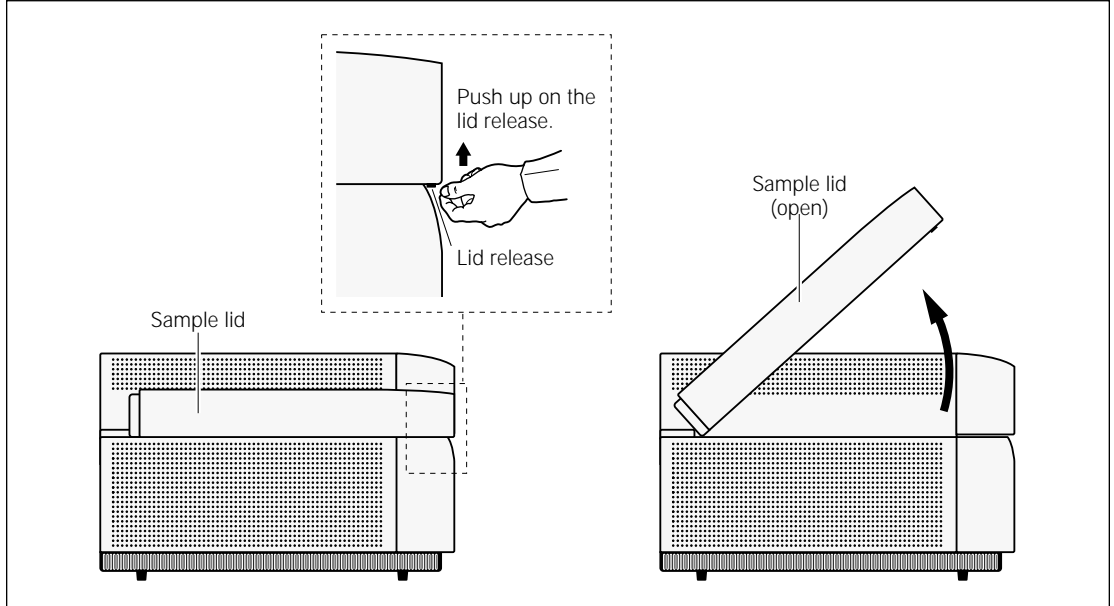

Figure 6-1. Opening the sample lid.
1. Push up on the lid release under the center front of the sample lid until the lid opens (figure 6-1).
1. If the sample lid is not already open, push up on the lid release under the center front of the sample lid until the lid opens (figure 6-1).